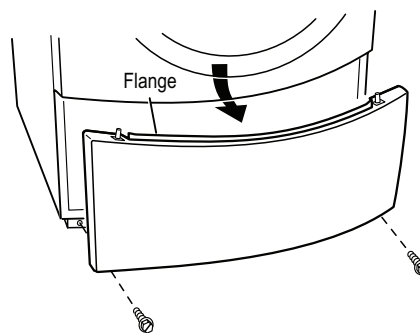

Figure 14. Pull the toe panel down to clear flange, then pull panel out.
3. Slide the toe panel down, then pull it out from the bottom. See Figure 14.